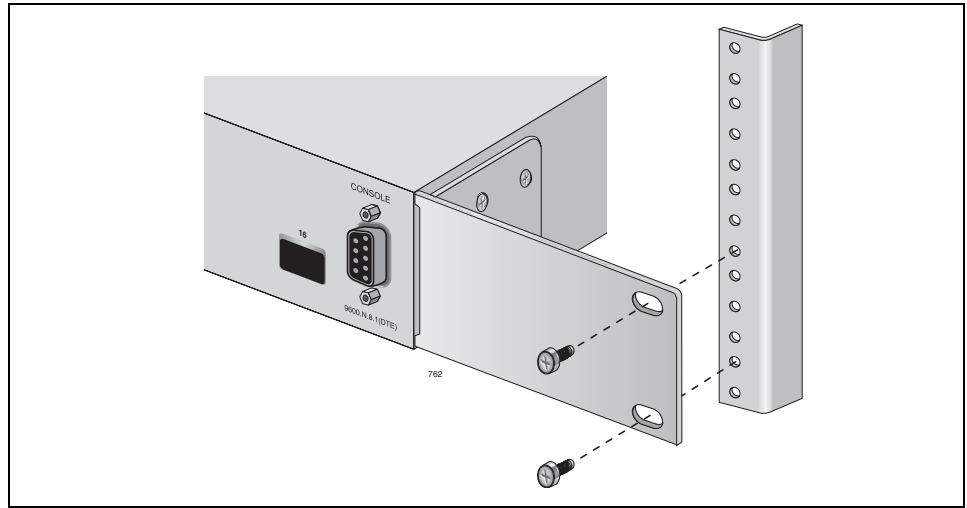
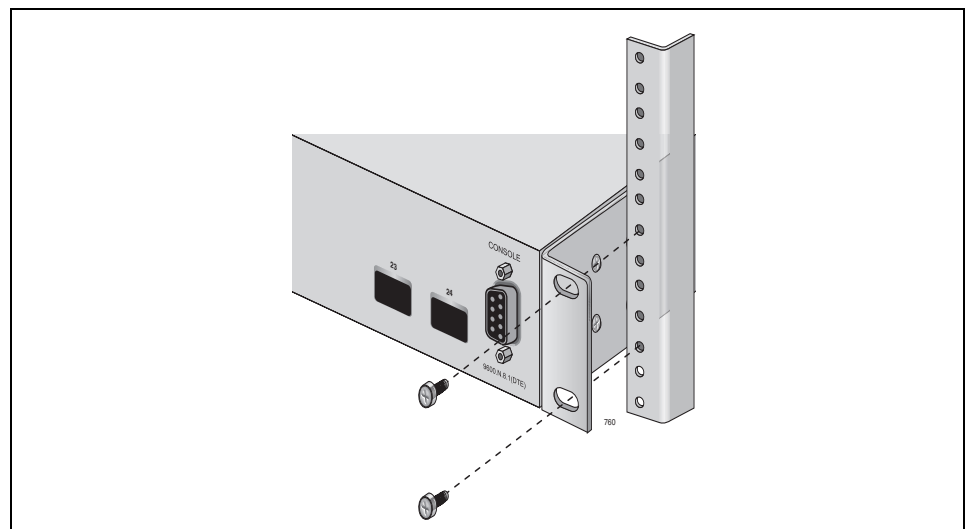

Figure 9. Mounting the AT-GS950/16 Switch in an Equipment Rack
Figure 10. Mounting the AT-GS950/24 Switch in an Equipment Rack
4. Mount the switch in a standard 19-inch equipment rack using the four large screws included. Figure 9 and Figure 10 show how to mount the AT-GS950/16 Switch and AT-GS950/24 Switch, respectively.